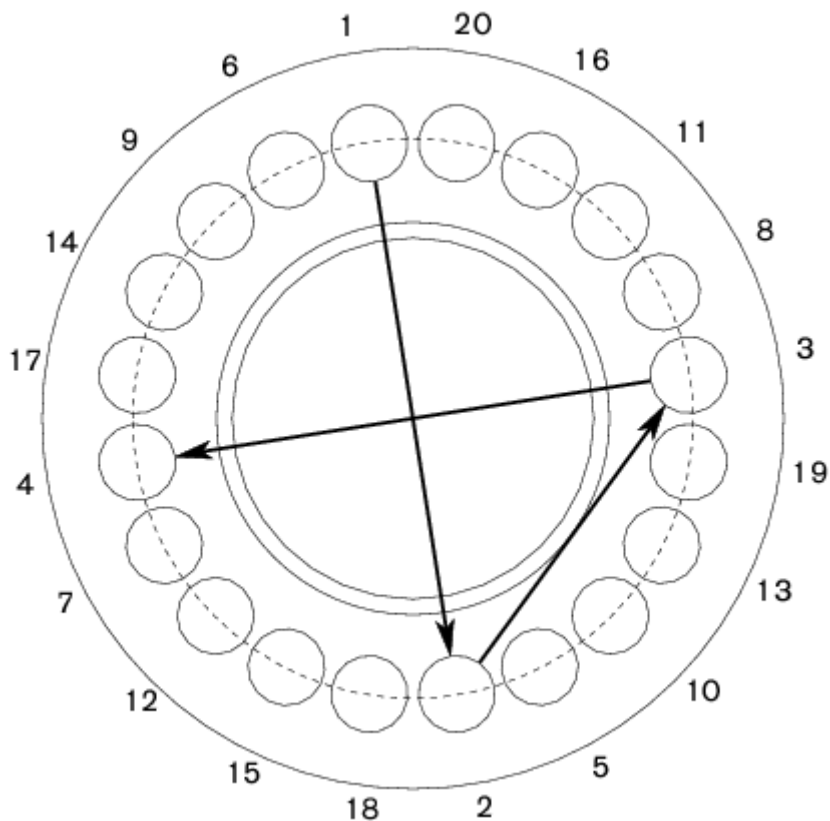

Figure 3-3. Flange Bolting Sequence
5. Tighten all nuts uniformly in a diametrically staggered pattern as shown in Figure 3-3. See the table titled "Recommended Flange Bolt Torque" on page 3-5 for proper torque specifications.